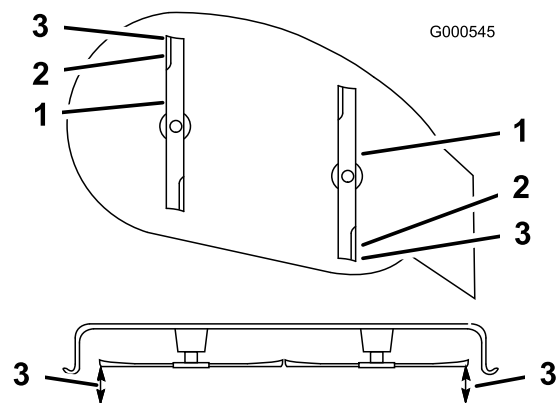

Figure 38
- Measure from the top of the front blade to the flat surface and the tip of the rear blade to the flat surface (Figure 38). If the front blade tip is not 0 to 1/4 inch (0 to 6 mm) lower than the rear blade tip, adjust the front locknut.
Note: Continue adjusting the nut until the front blade tip is 0 to 1/4 inch (0 to 6 mm) lower than the rear blade tip (Figure 38).